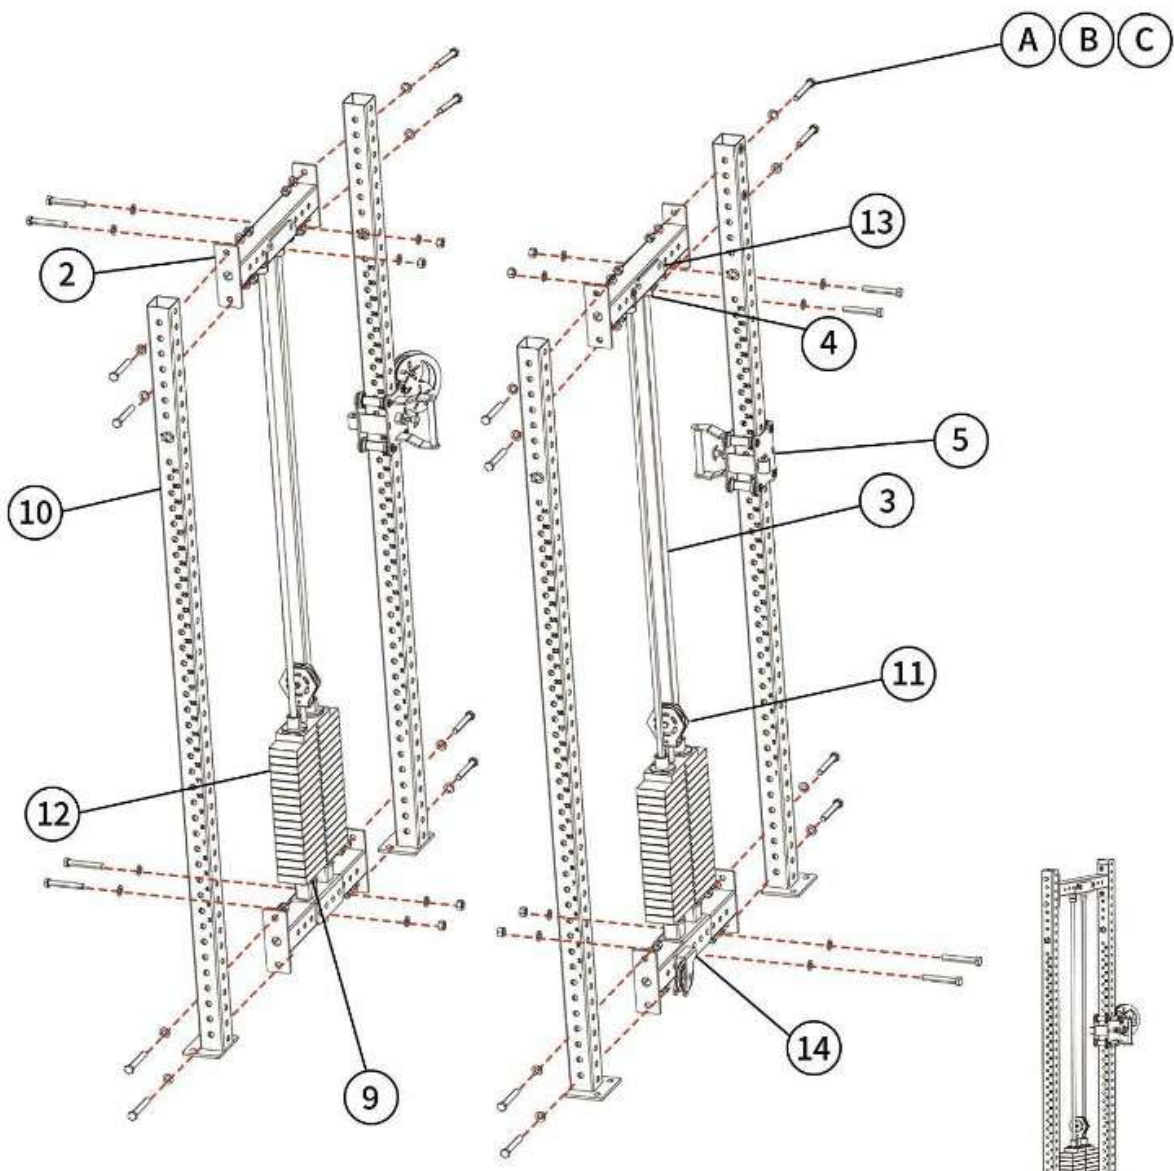

FIG. 4A
1. Position two rubber shock absorbing pads (9) over the lower guide rod bracket (14).
2. Insert two guide rods (3) through the two shock absorbing pads (9) and into the holders (14).
4. Slowly lower each of the seventeen weight stack plates (12) over the guide rods until they rest on the shock absorbing pads (9). *(Note: the plastic spacers on each plate should face upwards; the small pin hole on the side should face inside the rack frame.)*
5. Once all plates are in place, slowly lower the top plate and weight stack pin (11) over the guide rods so it sits atop the stack. Ensure the side pin hole is facing inside the rack frame.
6. Secure the upper guide rod bracket (13) to the centre of the upper side crossbeam (2) — that is, counting four holes inwards. Secure in place with bolts, nuts and washers (A/B/C).
7. Next, position two guide rod sleeves (4) over the top of the guide rods (3).
8. Position the side crossbeam (2) between the upright columns (10) and over the guide rods. Secure these in place with bolts, nuts and washers (A/B/C). The bolts of the upper crossbeam should go through part 16 to secure everything in place on the frame.
9. Position both guide rods securely into the upper guide rod bracket (13) and securely tighten the grommets to hold them in place.
11. Repeat steps 1–10 to assemble the weight stack on the other side of the main frame. **See FIG. 4A.**